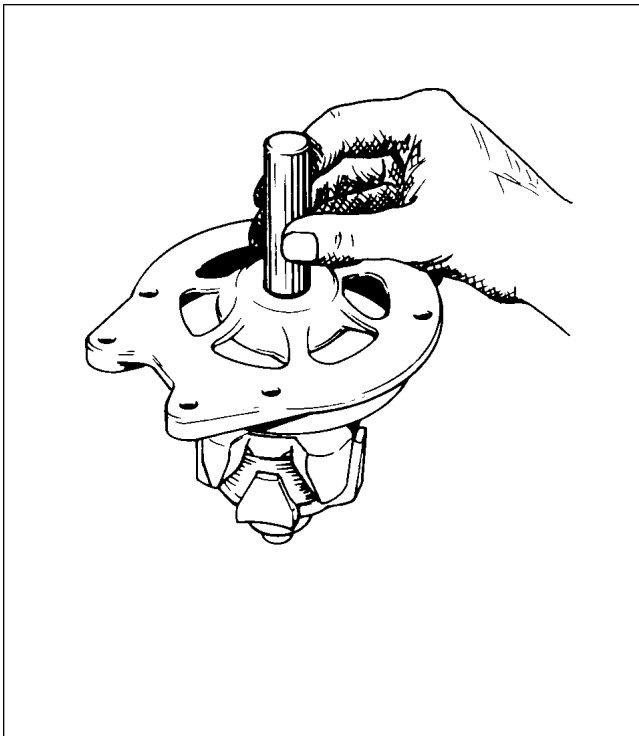

Figure 24-50. Installation of Bearing
- a. Press ball bearing into drive end head using a flat block approximately two inch square, so pressure is exerted on outer race of bearing. Install retainer plate. With snap ring and retainer cup in place on rotor shaft, use a tool that fits over shaft and against inner bearing race, and press until inner bearing race is against snap ring retainer cup. (Refer to Figure 24-50.)